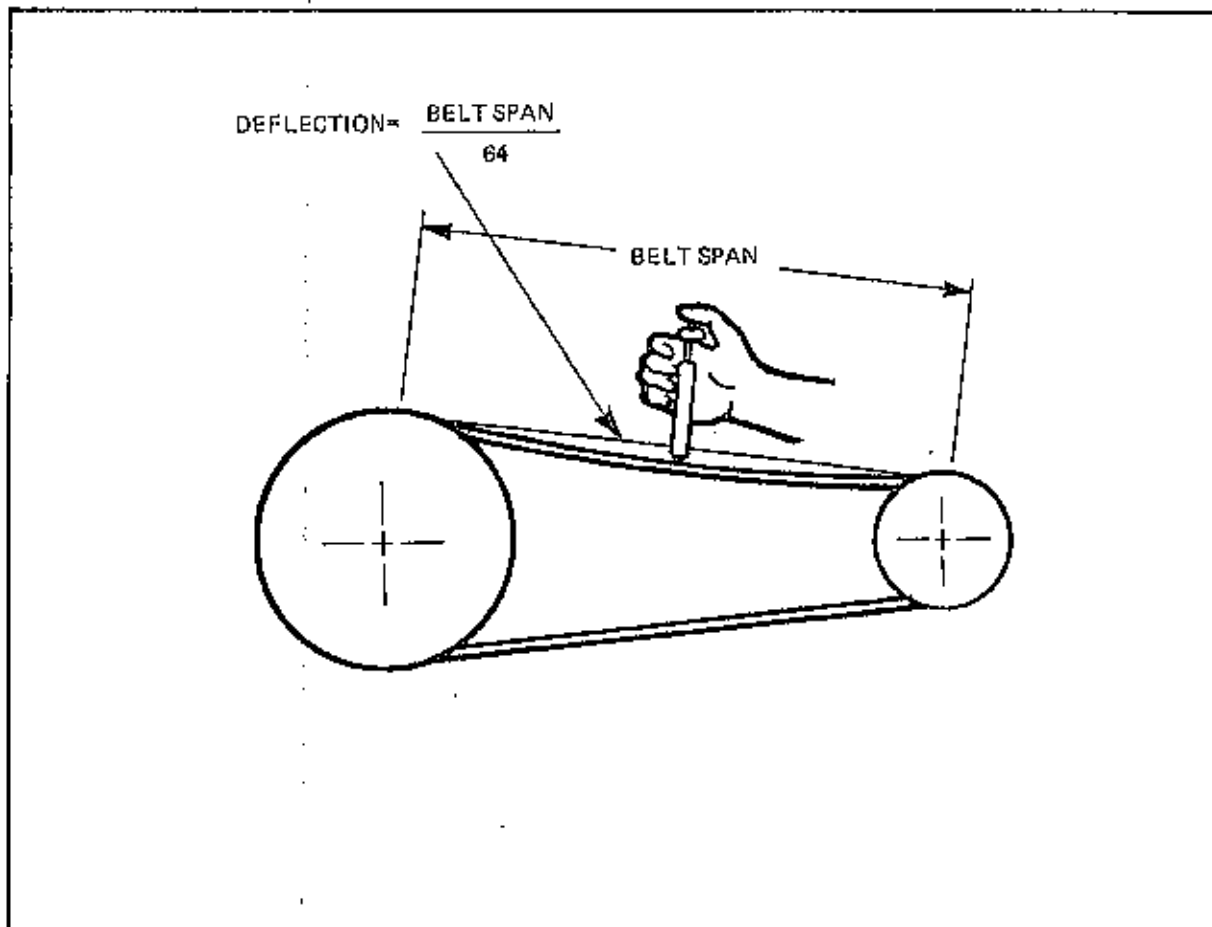

Figure 3-6. Belt Tensioning Chart
3. Determine the type of belt required from the Recommended Spares List. Refer to Figure 3-6 and Para. 3.1.F below, for details on how to check belt tension and the correct tensioning to be applied to the belts.
5. Turn the adjusting screw on the motor slide base to tension the belts as required. (Refer to Figure 3-6, Belt Tensioning Chart.)
F. REQUIRED BELT TENSIONING (See Figure 3-6)
The Belt Tensioning Chart shown in Figure 3-6, gives the recommended force required to deflect each belt by an amount equal to the belt span divided by 64.